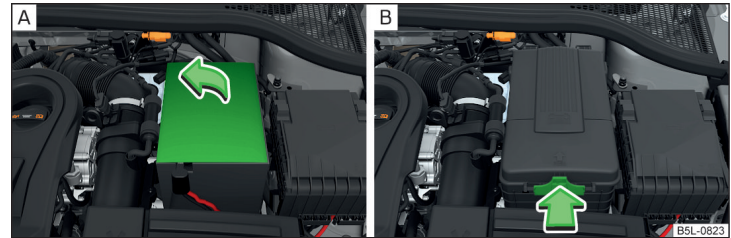

Fig. 172 Polyester vehicle battery cover / plastic vehicle battery cover
The battery is located in the engine compartment - in some models, underneath a polyester cover » Fig. 172.
► Open the battery cover in the direction of the arrow » Fig. 172- A or press the catch on the side of the battery cover in the direction of the arrow » Fig. 172- B.